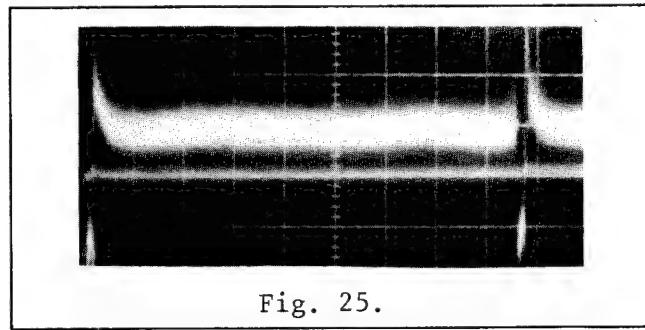

Fig. 25.
2. Adjust the dark shading control (V. Para.), VR303 and the dark shading control (V. Saw.), VR304 so that the signal waveform is flattest during the vertical period as shown in Fig. 25.